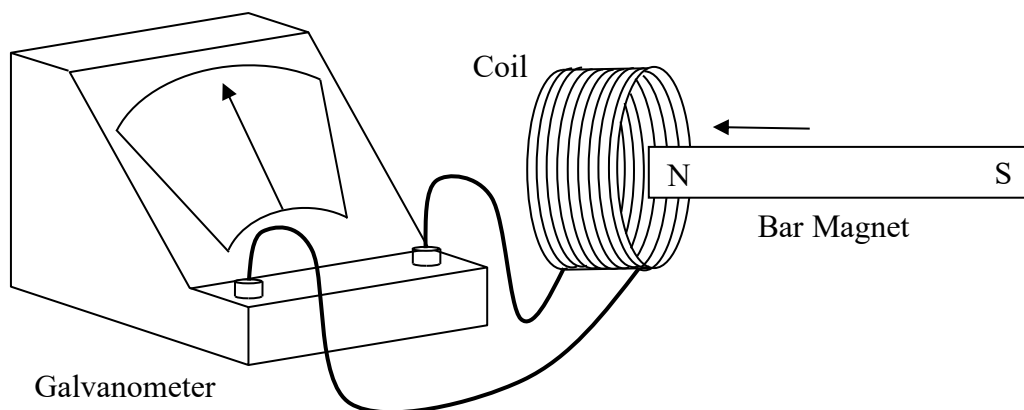

Fig. 4: Connecting the coil to the galvanometer.
1. Connect the coil to the galvanometer by wiring one side of the coil to one of the galvanometer posts and the other side of the coil to the other galvanometer post as shown in Fig 4 below.